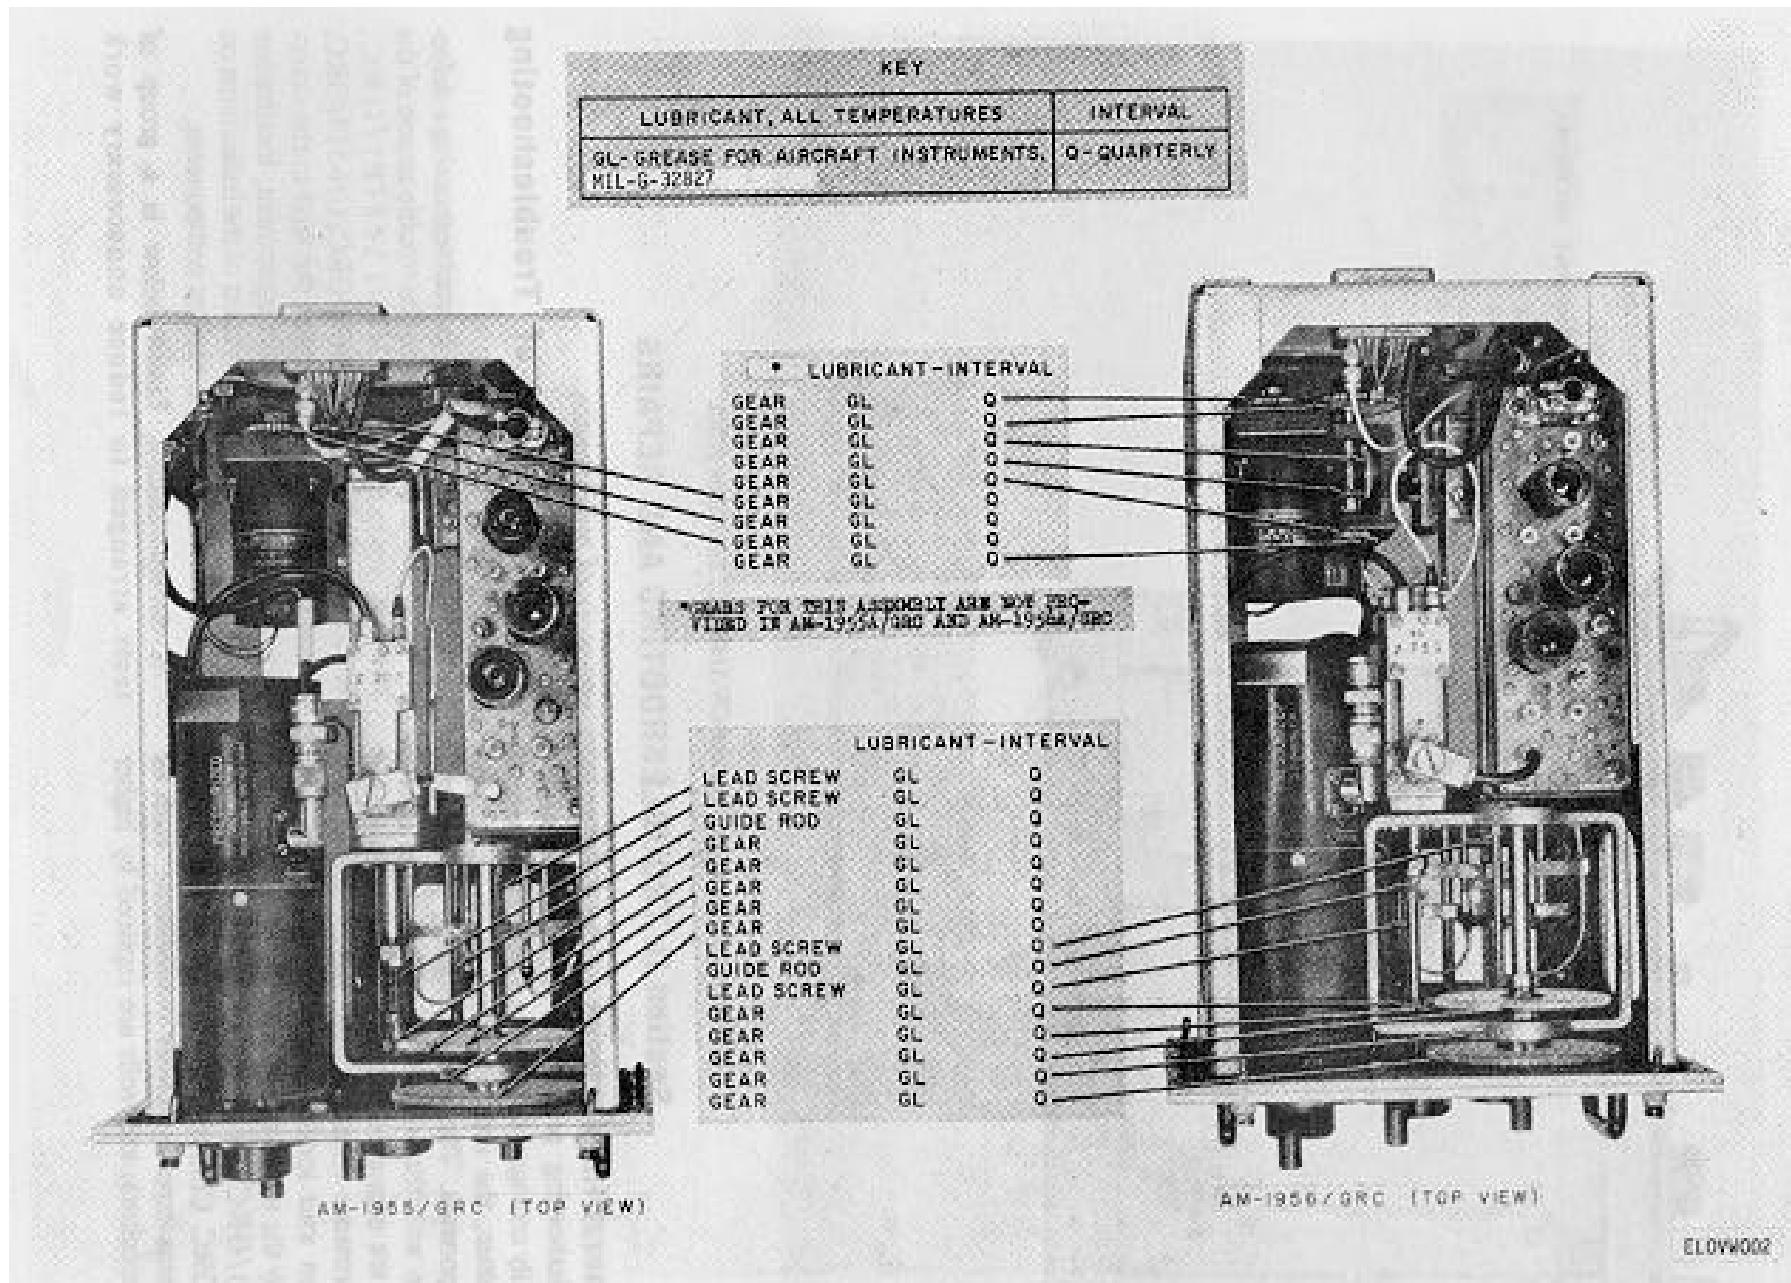

Figure 5-2. Amplifier-Oscillators AM-1955(*)/GRC and AM-1956(*)/GRC, lubrication points.
b. Amplifier-Converters AM-1953(*)/GRC and AM-1956(*)/GRC. Loosen the front panel mounting screws on the AM-1955(*)/GRC or the AM-1956(*)/GRC and remove it from the R-1148(P3/GRC or the R-1381(*)P)/GRC. Locate all points to be lubricated and clean them with a brush dipped in cleaning compound (fig. 5-2). Apply a light film of grease (GL) with a clean brush to the points indicated. Replace the AM-1955(*)/GRC or the AM-1956(*)/GRC and tighten the front panel mounting screws.